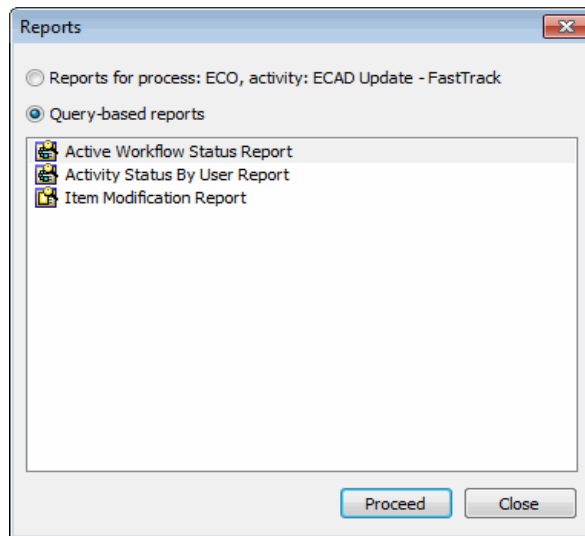

Figure 4-26: Reports window
3. In the resulting Reports window (see Figure 4-26), select the radio button to display the available specific or query reports, then select the report you want.